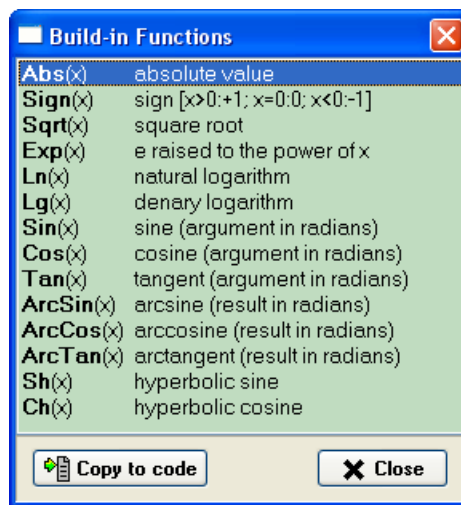

Fig. 34
- ✓ Button **Built-In Functions** opens a dialog window providing a list of built-in functions (see Fig.34). The user can either type the function name in the code or just select the needed function in the list and press button **Copy to Code**.